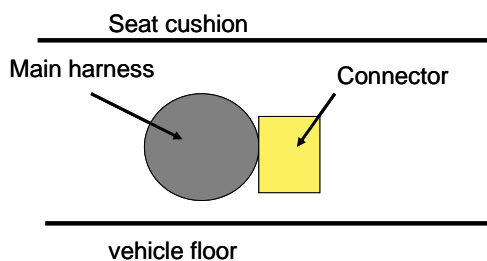

Figure 8b
- Make sure the connector is secured to the side of the harness as shown in Figure 8b.